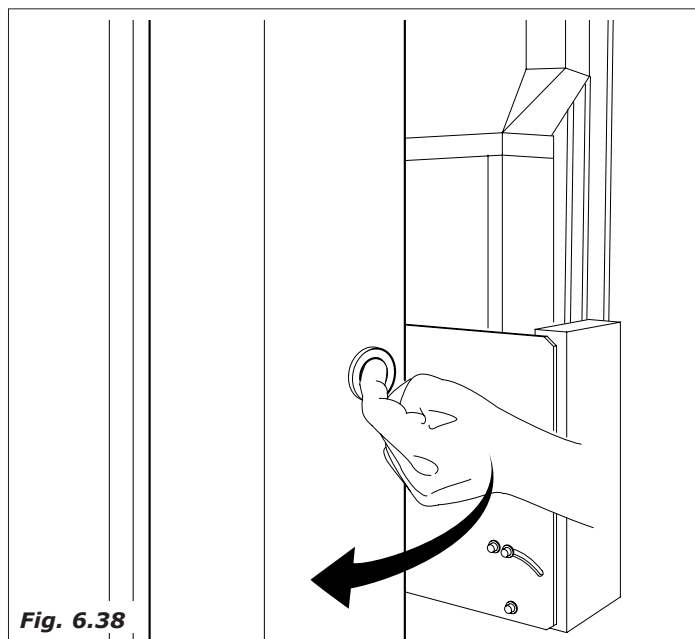

Fig. 6.38
- open the board and coin mechanism protection door (Fig. 6.38)